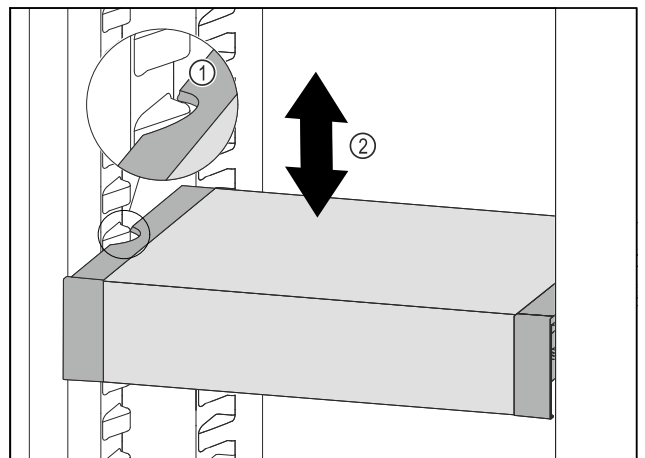

Fig. 119
- Pull VarioSafe forwards until the recesses in the side of the VarioSafe are at the level of the support rib in the refrigerator compartment. Fig. 119 (1)
- ▶ Move VarioSafe up or down in the refrigerator compartment until the desired height is reached. *Fig. 119 (2)*